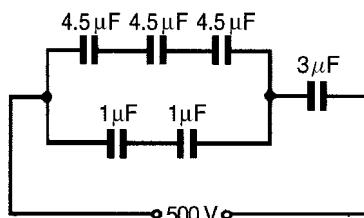

Figure 6.11
- 6 For the arrangement shown in Fig. 6.11 find